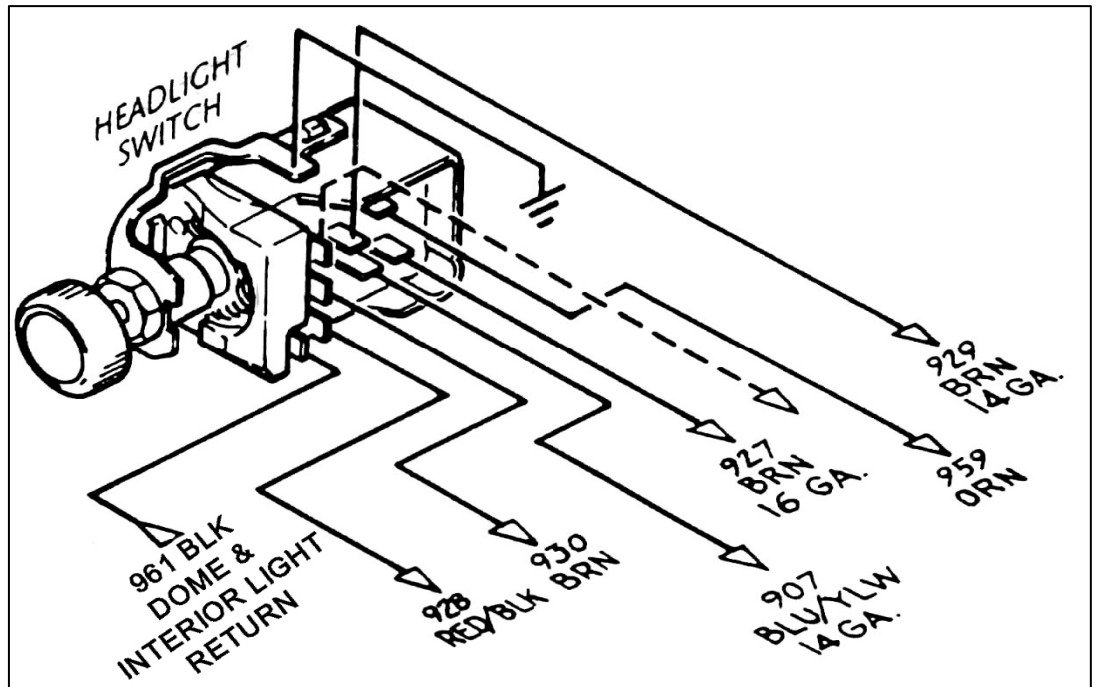

Figure 10-6 HEADLIGHT SECTION B Wiring (Painless Part #80152)
10.4.1 Interior Lights are switched through the door switches and the dash-mounted headlight switch, which is usually rotated counter-clockwise to turn on. These switches apply ground to the circuit. YOU WILL NEED TO SUPPLY THESE GROUND WIRES. 12V is continually present at the light bulbs. See Figure 10-6.
10.6 HEADLIGHT SECTION B Wiring. See Figure 10-6.
Note: On late-style GM headlight switches, the park lights terminal to which wire #927 (brn) is connected (shown in **Figure 10-6**) has been omitted. In this case, wire #927 must be connected as indicated by the dashed line in **Figure 10-6**.